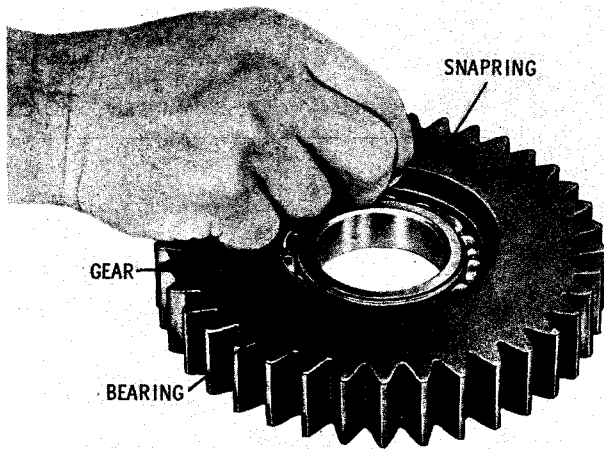

Fig. 7-59. Installing oil pump idler gear (or PTO idler gear) bearing snapping S1704
(5) Install the bearing into the oil pump idler gear. Secure the bearing with the snapping (fig. 7-59). Assemble, in the same manner, the power takeoff idler gear (if used) which is identical to the oil pump idler gear.